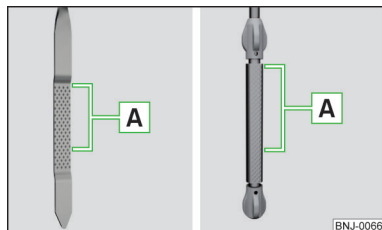

Fig. 249
The oil level must lie in range **A** » Fig. 249. If the oil level is below range **A**, oil must be added.
- The oil level must never fall outside range **A** » Fig. 249 – otherwise there is a risk of damaging the engine and the exhaust system.